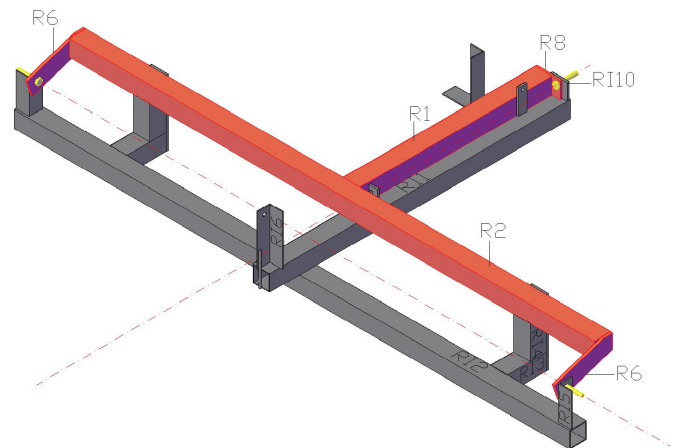
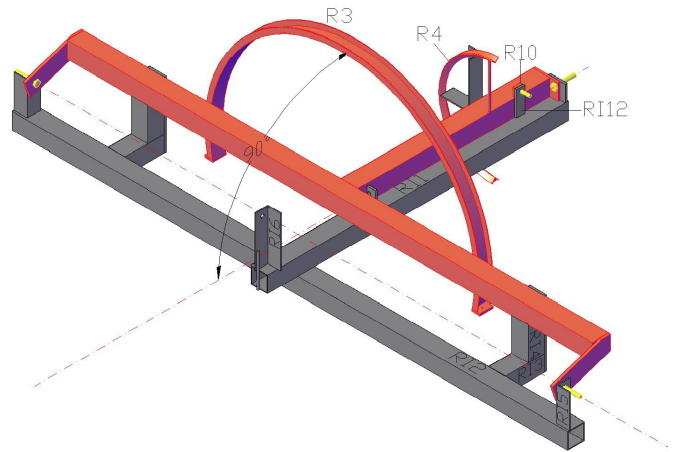

Fig. 9: Assembly of RS step 1-3
Fig. 10: Assembly of RS step 4-6
**Step 2** Place R8, R9, R10, R6s at their corresponding position on the jig (see Fig.9 and Fig.10) and fix them with M10 / M8 bolts and nuts. There is a 8 mm gap between R1 and RI11. This gap is the space for the weld!
Weld R3 perpendicular to the axis of rotation to R2. The centre of R3 has to be on the axis of rotation. See Fig.10.